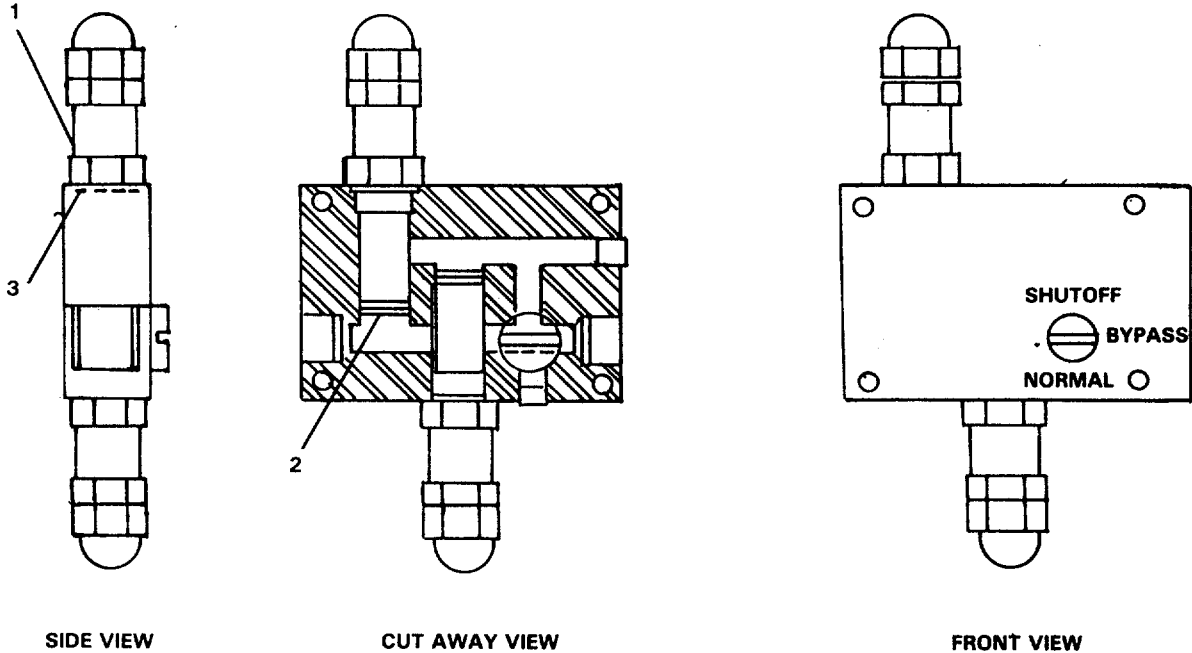

FIGURE 3-6. Relief Cartridge.
**3-14. Replace/Repair Relief Cartridge. (FIGURE 3-6)**